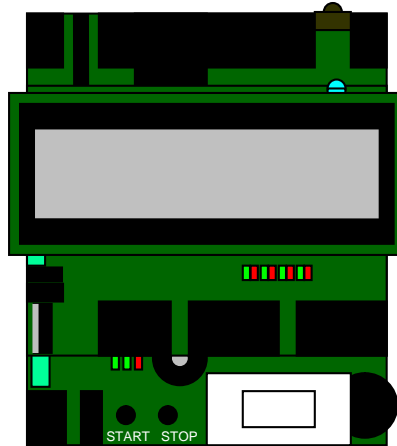

**Figure 3 – Making Battery Connections**
1. Check that the main board power switch is in the off position, as shown in Figure 3.
3. Attach the red lead from the battery holder to the positive terminal on the main board battery terminal block and the black lead from the battery holder to the negative terminal, as shown in Figure 3.
2. Observe the bootstrap loader's welcome message – similar to the message shown in Figure 3. The bootstrap loader indicates the currently set baud rate. The factory default is 38.4K (38400) baud.